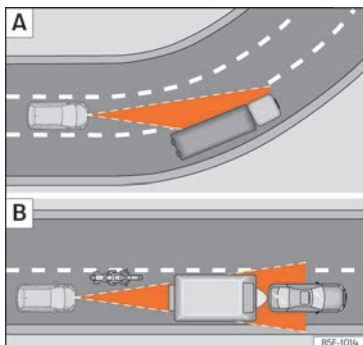

Fig. 118 [A] Vehicle on a bend. [B] Motorcyclist ahead, out of range of the radar sensor.
The ACC may not detect the vehicle in front on a curve, or may regulate the distance from vehicles in other lanes >>> Fig. 118 [A].
- Vehicles that are not aligned while driving or that are outside the sensor's detection area, such as motorcycles >>> Fig. 118 [B].